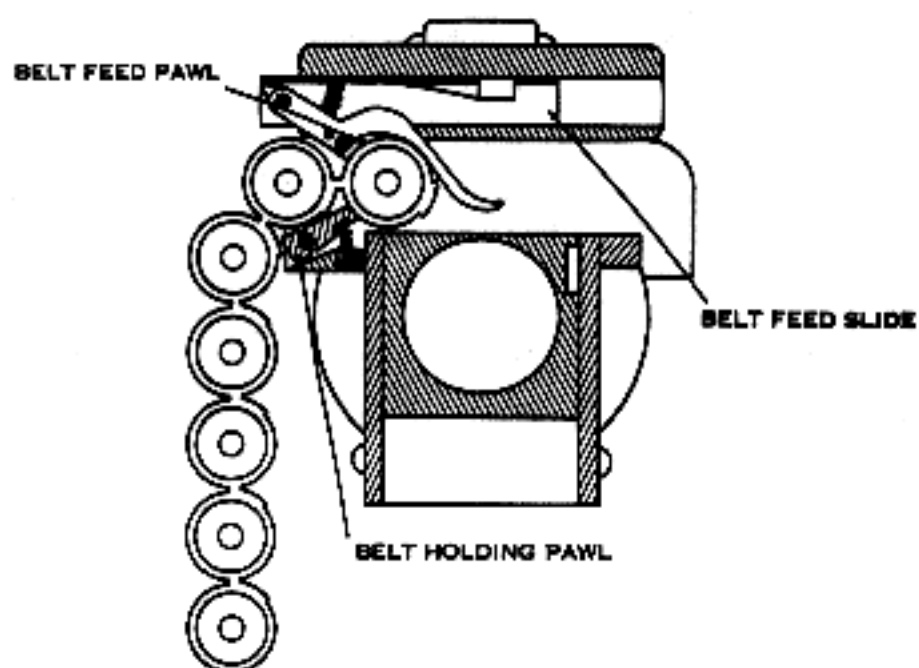

Figure 89. Feeding—belt feed pawl behind the first round.
(3) When the bolt is all the way to the rear, the belt feed slide moves out far enough to allow the belt feed pawl spring to force the pawl down behind the first round (fig 89).
(4) As the bolt moves forward, the belt feed lever moves the slide back into the receiver. The